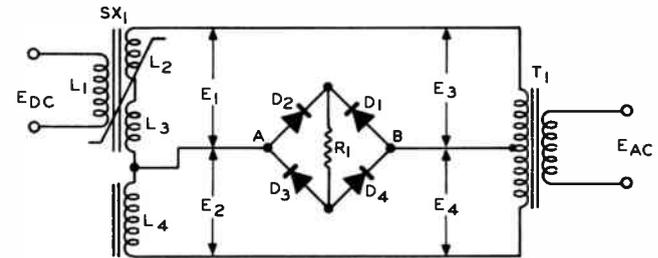

FIGURE 17
9.     In Figure 17, winding  $L_4$